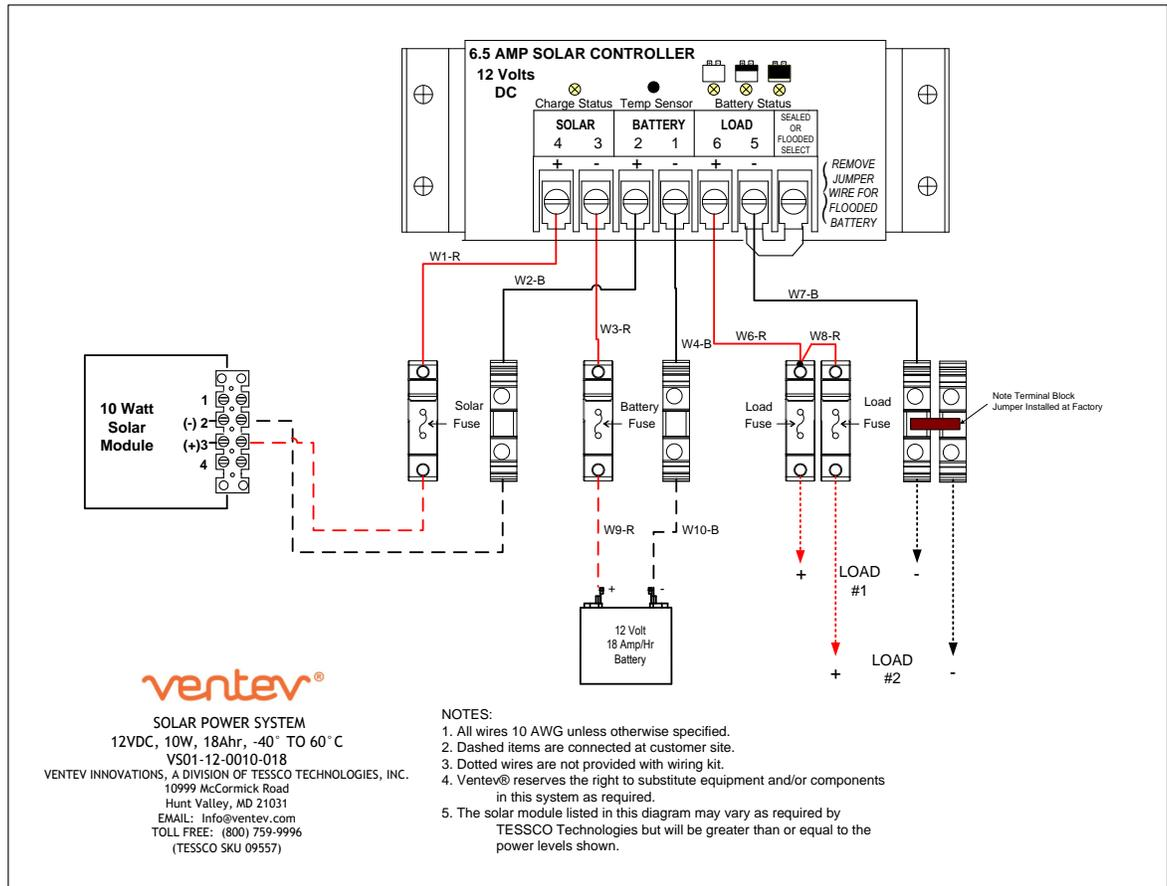

Figure 5: 12 Volt, 10 Watt Solar System Wiring Diagram
Figure 5 is a copy of the door wiring diagram for the 12 Volt, 10 Watt solar system.
With the enclosure delivered to the site pre-wired, solid lines in the diagram (Figure 5) indicate factory wiring, dashed lines represent wiring provided with the system but require on-site installation and connection after the solar modules are mounted and battery(s) installed. Dotted lines indicate wiring not provided in the package that are to be supplied on-site by the customer.
Note: Moving a Ventev Solar Power System from the original design site can be detrimental. For example, systems designed for installation in Zone A (Fig. 5) will not work in Zone E, so it is critical to size the systems according to the guidelines on Tessco.com. If you have any questions about matching your system requirements to the Ventev solar map, contact Tessco Customer support at (800) 472-7373. To maintain warranties the system location and load(s) must stay within site specifications for which it was intended.